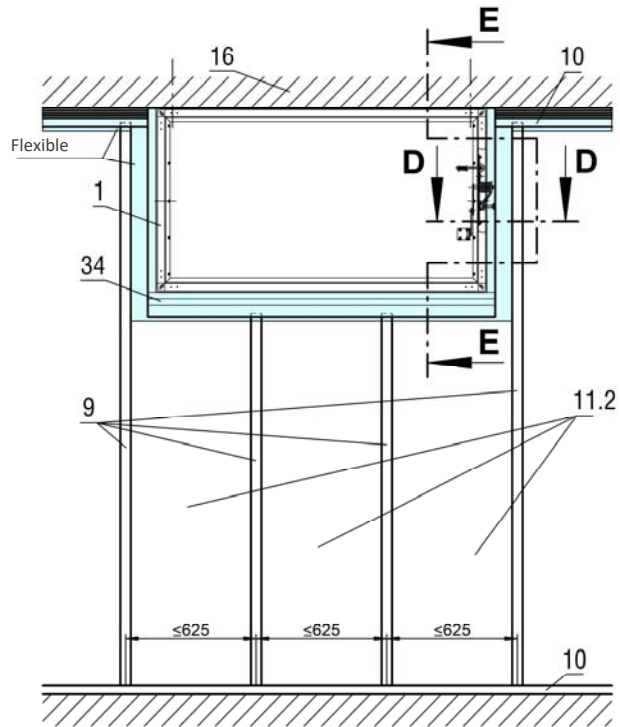
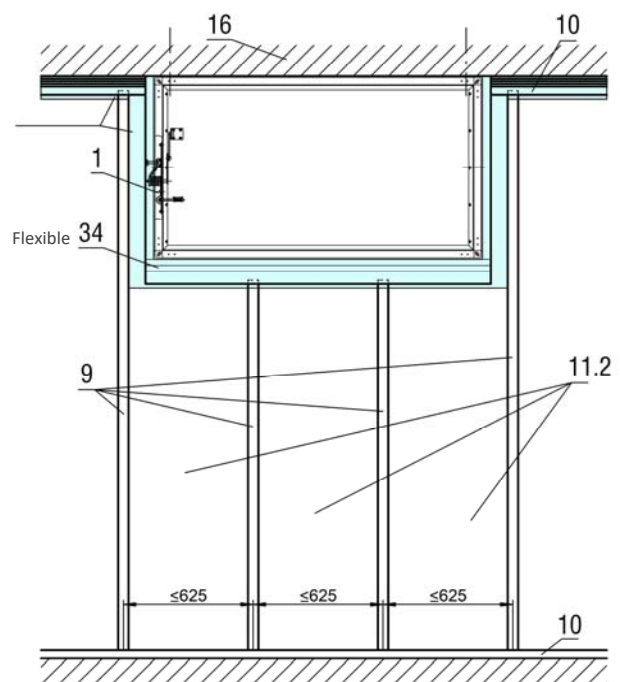

Figure 59: Metal stud frame with required replacement parts for installation kit type GDL (the figure shows: WxH 1500x800; R08 - R11 or R58 - R61)
Figure 60: Metal stud frame with required replacement parts for installation kit type GDL (the figure shows: WxH 1500x800; R12 - R15 or R62 - R65)
In the sliding area (see Figure 59 + Figure 60), the metal stud profiles must be installed according to the wall manufacturer's specifications. Panellings must not be fastened in this area.
- Fire damper (pos. 1) is installed before the construction of the wall.
- The BKA-EN with installation kit GDL (pos. 34) is fastened to the solid ceiling via the fastening brackets (pos. 34.13; 4 pieces) mounted ex works on the fire damper using metal dowels M12 provided on site.
- Horizontal U-profile (pos. 34.8) and vertical H-strips (pos. 34.5; sliding strips) of the installation kit type GDL must be aligned such that they are perpendicular and flush to the wall (which will be assembled subsequently).
- Assembly of the wall in the immediate connection area of the installation kit type GDL (pos. 34):
- Mount the plate strips of the flexible ceiling connection of the wall on both sides of the installation kit type GDL on the solid ceiling (pos. 16). Guide the strips up to the vertical H-strips of the installation kit type GDL (pos. 34.5; sliding strips). Gaps to the installation kit type GDL must be closed (filled) with the jointing material of the wall. After that, the UW connection profile is mounted.
- Adjust the first vertical continuous metal post (floor-ceiling) on each of the two sides of the damper: distance (clearance in mm) to the vertical H-strip (pos. 34.5; sliding strip):  $10 \leq e \leq 85$ .
- Arrange metal posts between the above mentioned continuous metal posts evenly or in steps of 625 mm. At least one metal post must be provided. Metal posts are inserted into the UW floor profile and the U-profile of the installation kit type GDL (pos. 34.8).
- The wall must be connected to the U-profile of the installation kit type GDL (pos. 34.8) according to the general ceiling connection of the wall.
- Insertion of mineral wool (pos. 11.2). It must always be provided in the marked area (Figure 59).
- Mounting of panellings on both sides (pos. 12). Screw connections in the marked area (sliding area; Figure 59) are not allowed.